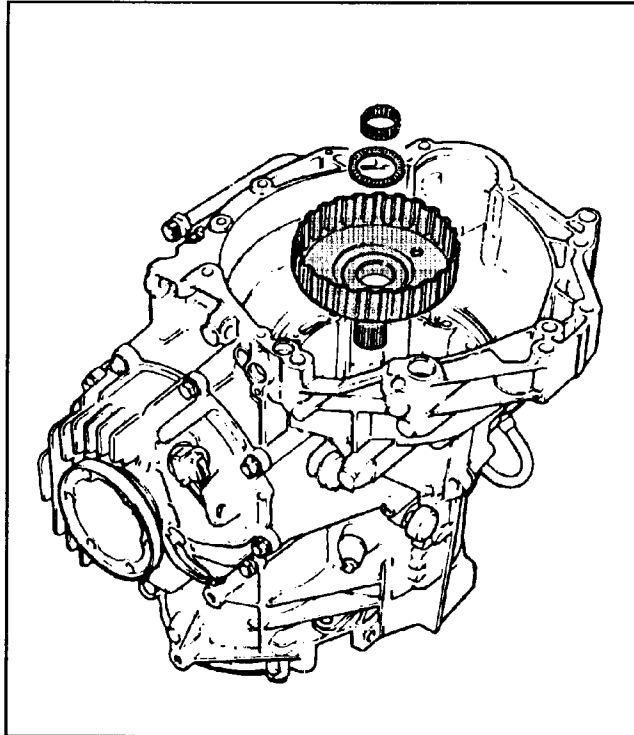

Figure 148
19. Install the large driveshaft into the case, and spline into the small sun gear (See Figure 148).
20. Install the two torrrington bearings into the large driveshaft (See Figure 148).